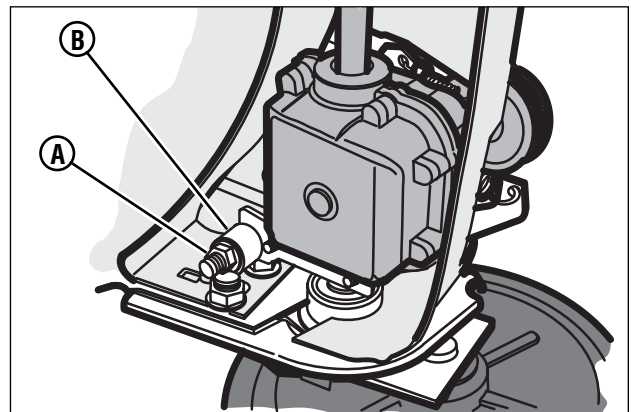

Figure 22: Setting the belt tension
- a. Tighten the adjuster nut (A, Figure 22) until the nut touches the spacer (B). Try to turn the spacer. When the adjuster nut touches the spacer, the spacer will not turn.